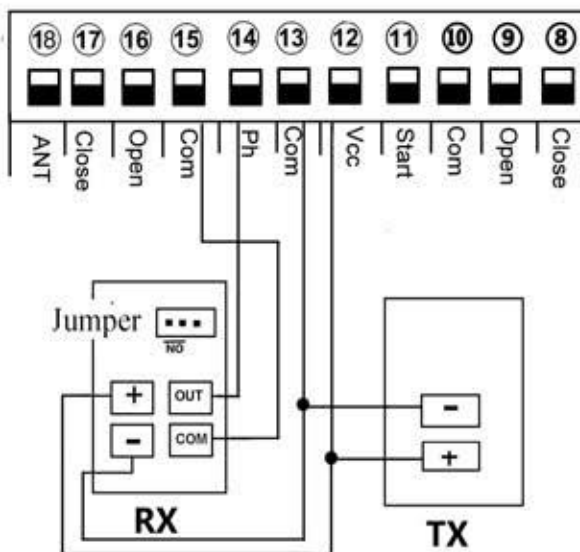

Fig 11
6.5. Connect to infrared sensor. Fig11